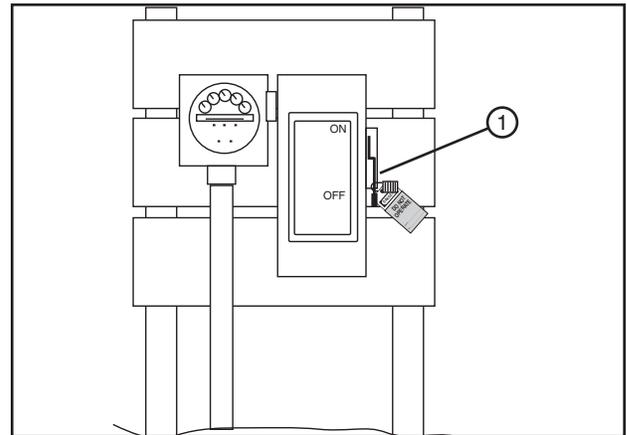

Figure 33-1 1. Public Power Service Disconnect
1. SHUT OFF and LOCK the public power service disconnect to the irrigation machine. See figure 33-1.
FILL OUT the blue (OSHA safety color code) tag and attach to the disconnect after locking. See figure 33-1.